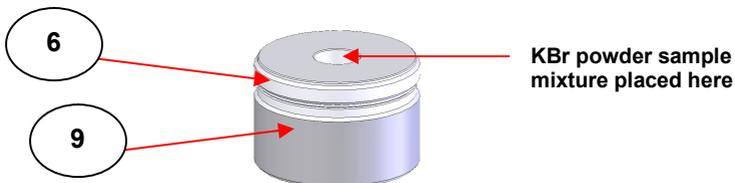

Fig 3. 7mm Pellet Die Ring Holder (Body) on Bottom Anvil
When the sample has been ground sufficiently, place some of the KBr mixture into the central hole of the 7mm pellet die ring holder (6) as it rests on the bottom anvil (9). (see Fig 3.)